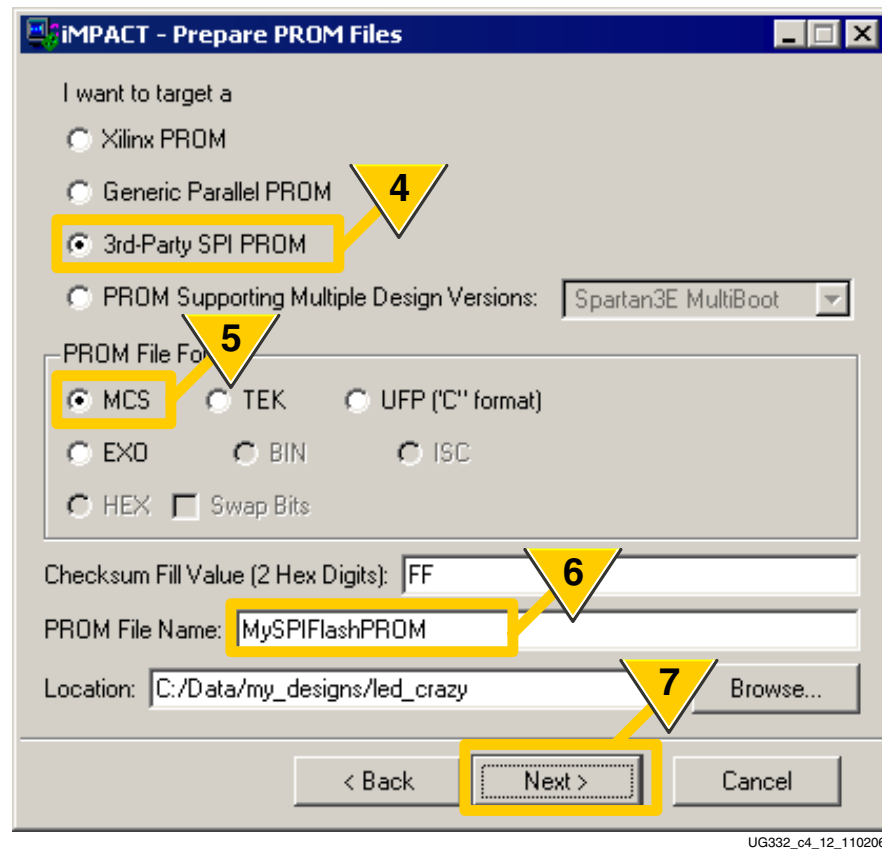

Figure 4-11: Set Options for a 3rd-Party SPI PROM
- As shown in Figure 4-11, format the FPGA bitstream or bitstreams for a **3rd-Party SPI PROM**. This option automatically invokes the `-spi` option for generating the PROM file.